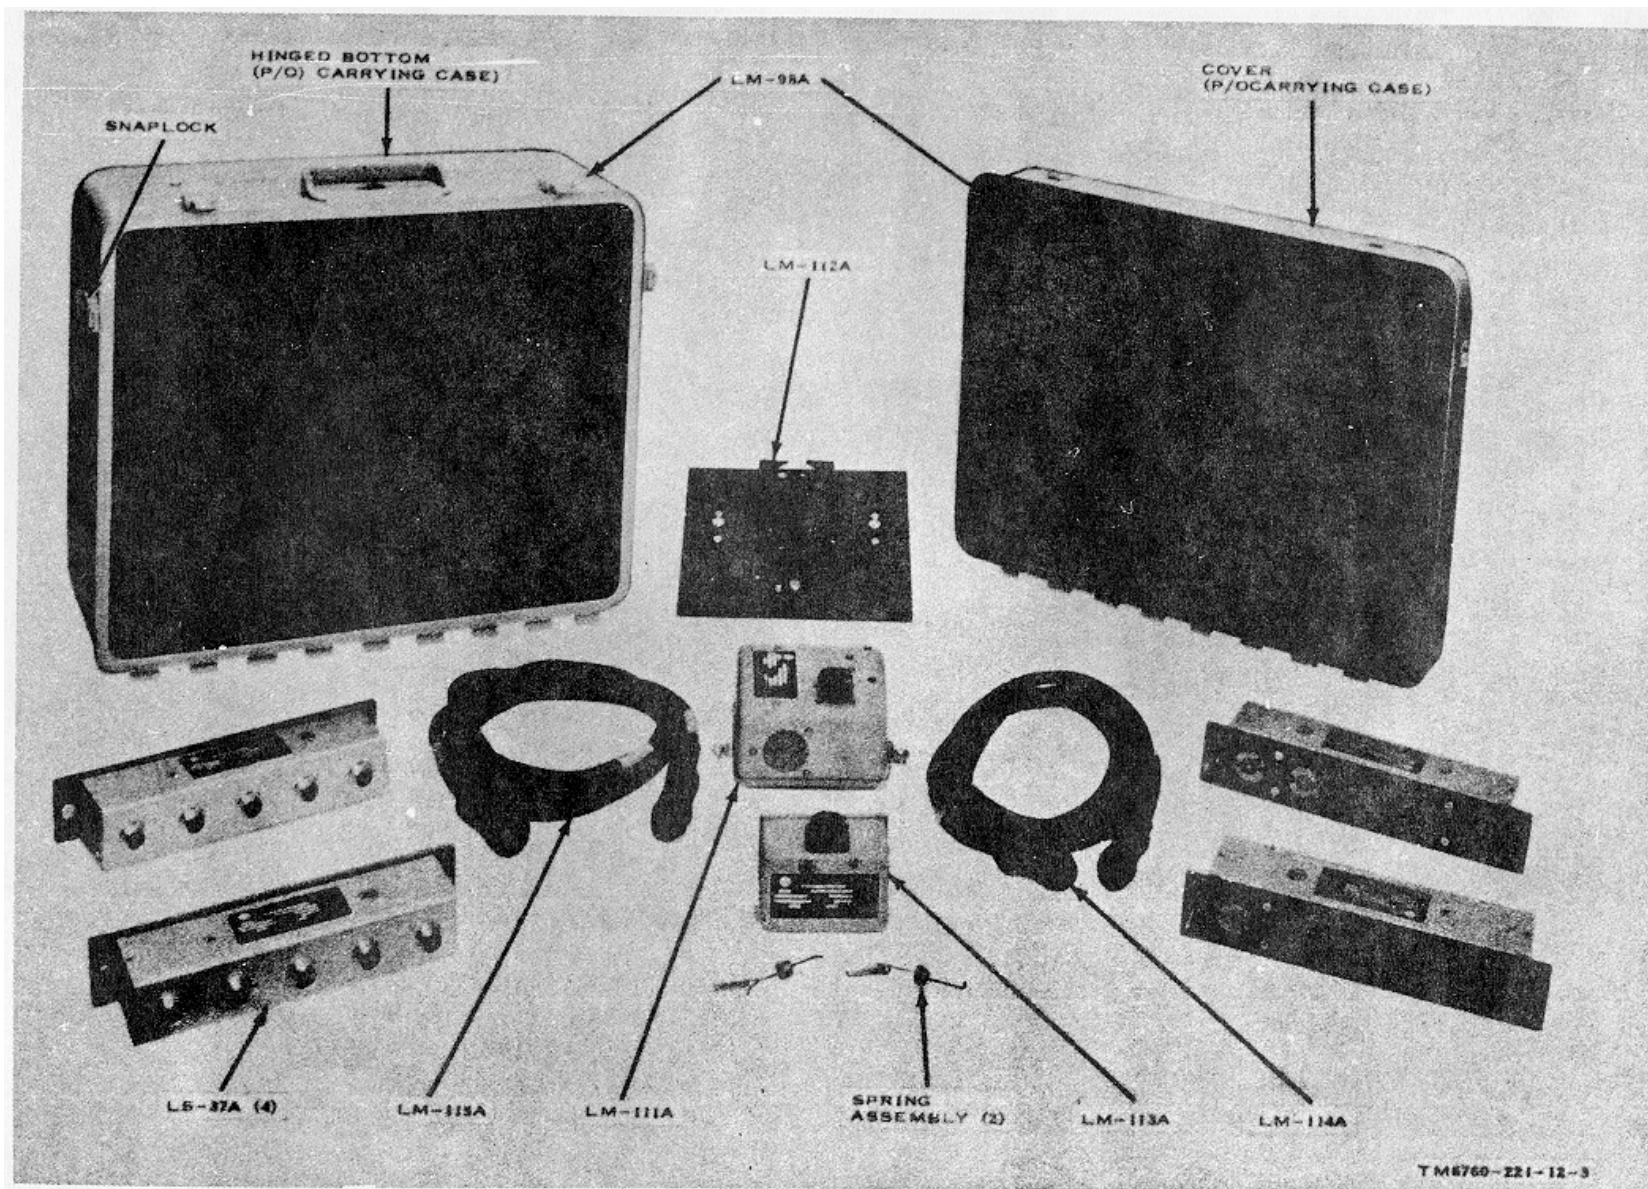

Figure 3. Simulator Group LM-97A (less running spares); part of Test System, Photographic Surveillance LS-34A.
- (c) *Simulator Group LM-97A* (fig. 3). The LM-97A is used to provide simulated flash burst, scanner, and terrain brightness signals to an ACCS being tested by Analyzer, Photographic Surveillance System LS-35A.
(3) Simulator Group LM-97A (fig. 3).